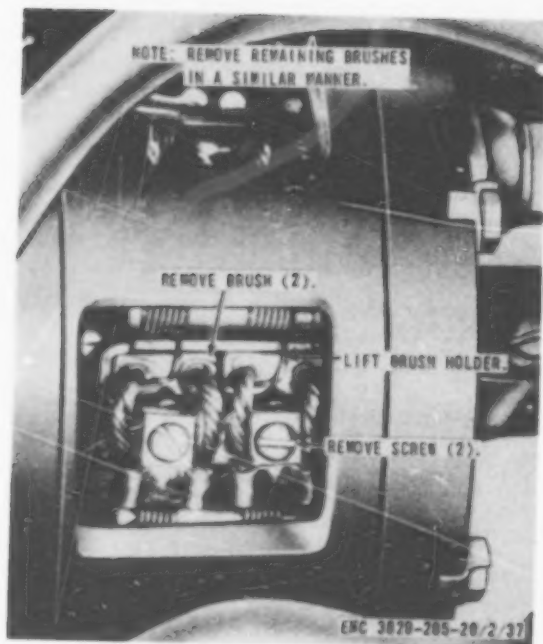

Figure 36. Starter brush, replacement.
- (2) Remove the brushes from the starter as instructed on figure 36.
- (3) Inspect the brushes for worn or chipped condition. Replace brushes if worn to less than one-half inch in length. Inspect the commutator for burning, grooving, and high mica between segments. Replace a defective starter.
- (4) Install new brushes in reverse of the instructions on figure 36.